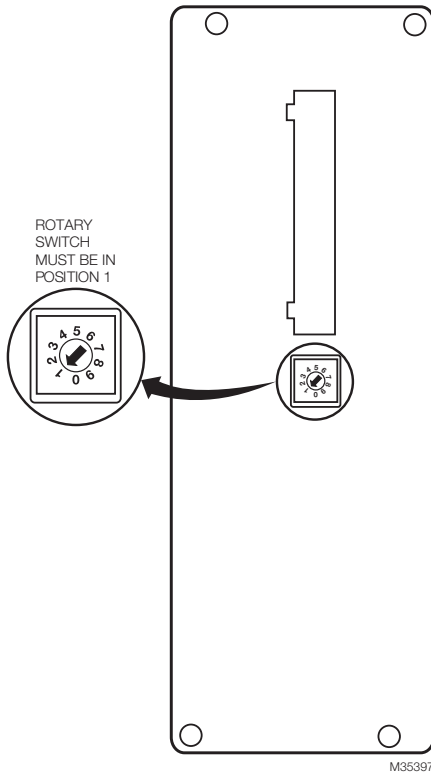

Fig. 2. Flame Amplifier Module Selector Switch.
The SLATE Burner Control Module is designed to operate with only one Flame Amplifier Module. The Flame Amplifier Module has a rotary switch on its back side which is factory set to 1. It must be set to 1 for the system to operate properly. See Fig. 2.
2. Verify the Selector Switch is set to 1. See Fig. 2.